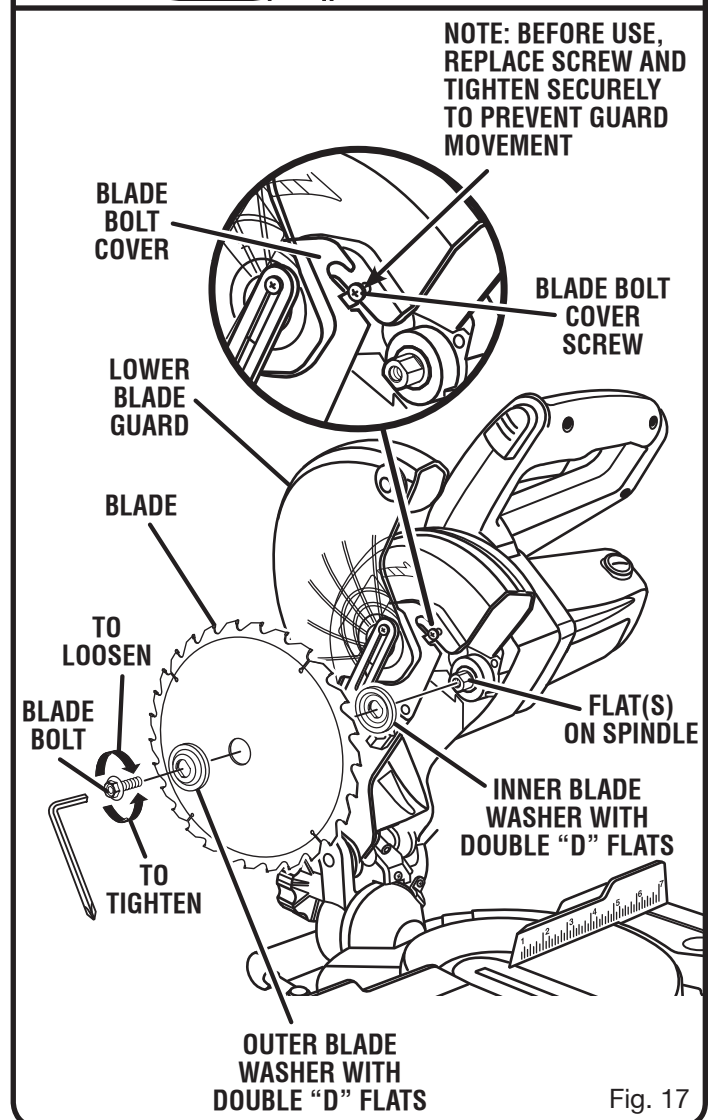

Fig. 17
- Fit saw blade inside lower blade guard and onto spindle. The blade teeth point downward at the front of saw as shown in figure 17.